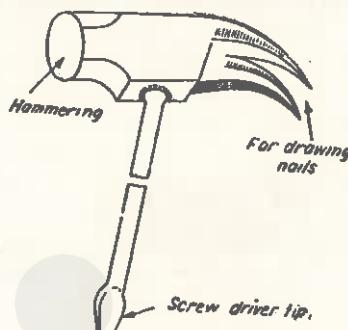

Fig. 9.9. A multipurpose tool.
- (b) Wherever possible, those tools should be used which can perform more than one operations. This saves a lot of time, otherwise wasted in searching and picking a number of tools. A tool shown in Fig. 9.9 can carry out three operations, namely (i) hammering, (ii) drawing out nails, (iii) screw driving.